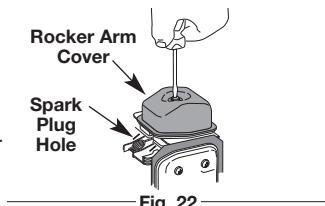

Fig. 22
4. Remove the engine cover (Fig. 22).